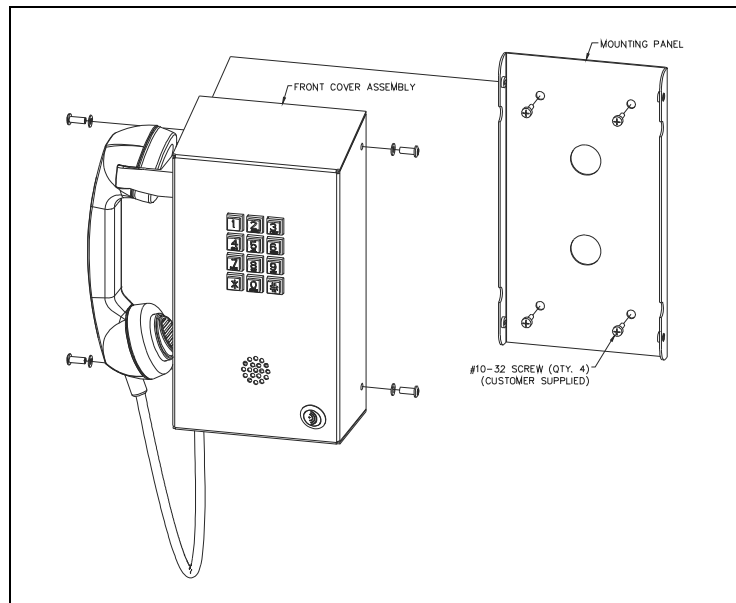

Figure 4. Models 210-700BH/-700BHAC Front Cover Removal
1. Use a GAI-Tronics No. 233-001 security screwdriver to remove the four tamper-resistant cover panel screws (See Figure 4).